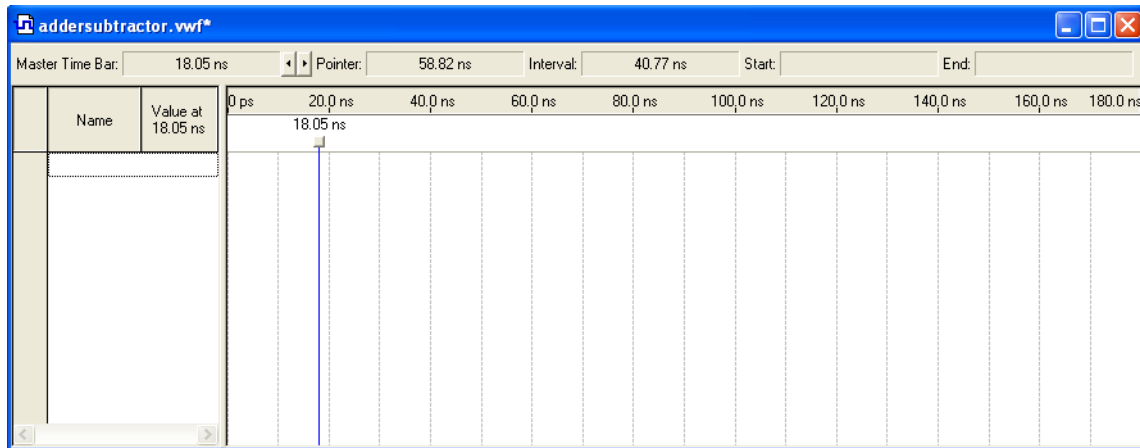

Figure 4. The Waveform Editor window.
- The Waveform Editor window is depicted in Figure 4. Save the file under the name *addersubtractor.vwf*; note that this changes the name in the displayed window. In this figure, we have set the desired simulation to run from 0 to 180 ns by selecting **Edit > End Time** and entering 180 ns in the dialog box that pops up. Selecting **View > Fit in Window** displays the entire simulation range of 0 to 180 ns in the window, as shown. Resize the window to its maximum size.